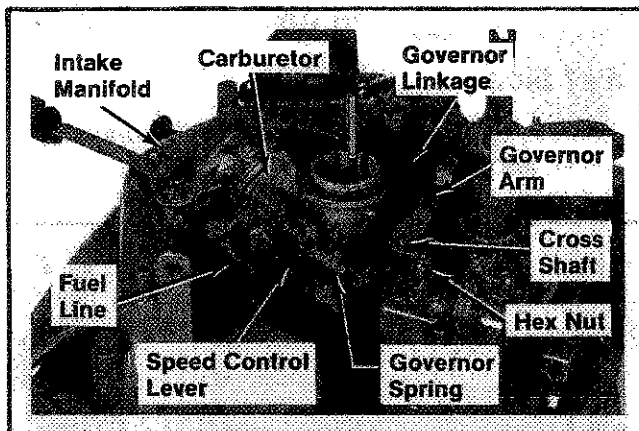

Figure 9-6. Removing Governor Arm, Carburetor, And Intake Manifold.
1. Note the position of governor spring in governor arm and speed control lever. Loosen the hex nut and remove governor arm and plain washer from cross shaft. Refer to Figure 9-6.